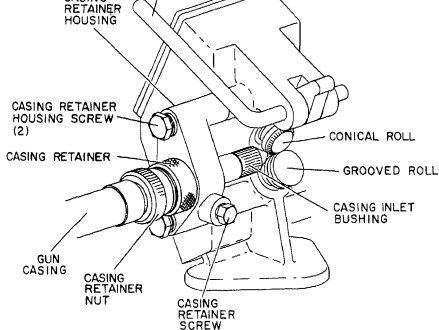

Figure 6. Drive Roll Housing
and out about an inch through the casing inlet guide bushing housing (Fig. 6).
m. Pass the end of the gun casing through the casing retainer (Fig. 6).